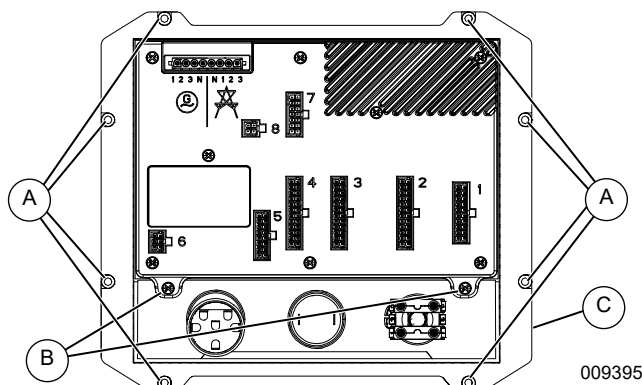

Figure 3-1. Mounting and Grounding
See Figure 3-1. The Main Controller is mounted to the enclosure through a rectangular opening in the sheet metal and secured by eight M4-8 mm screws and eight #8-M4 lock washers (part no. 022264) around the edge (A). Tighten screws to 6.6 **in-lbs** (0.75 Nm). The gasket (C) and screws help prevent water from entering the module.